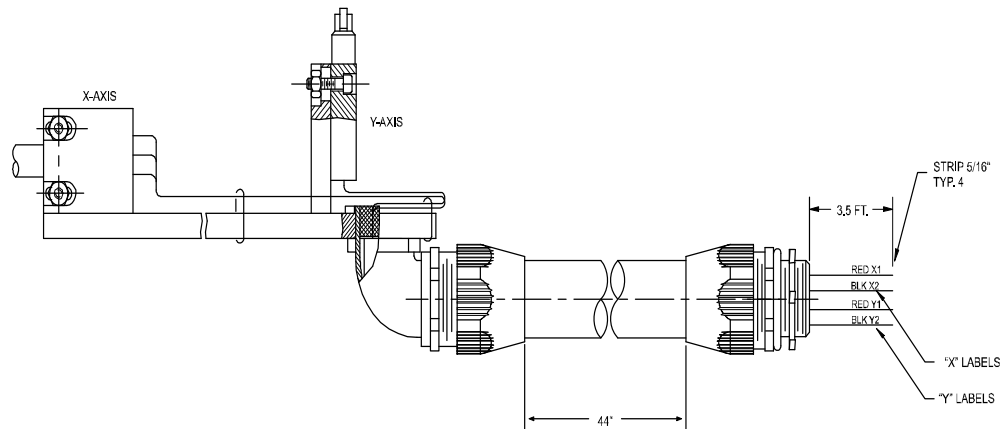

Figure 3-32, X and Y Limit Switch Harness Assembly
10. Refer to **Figure 3-32**. Remove the metal 1/2" NPT nut from the X and Y limit switch cable.